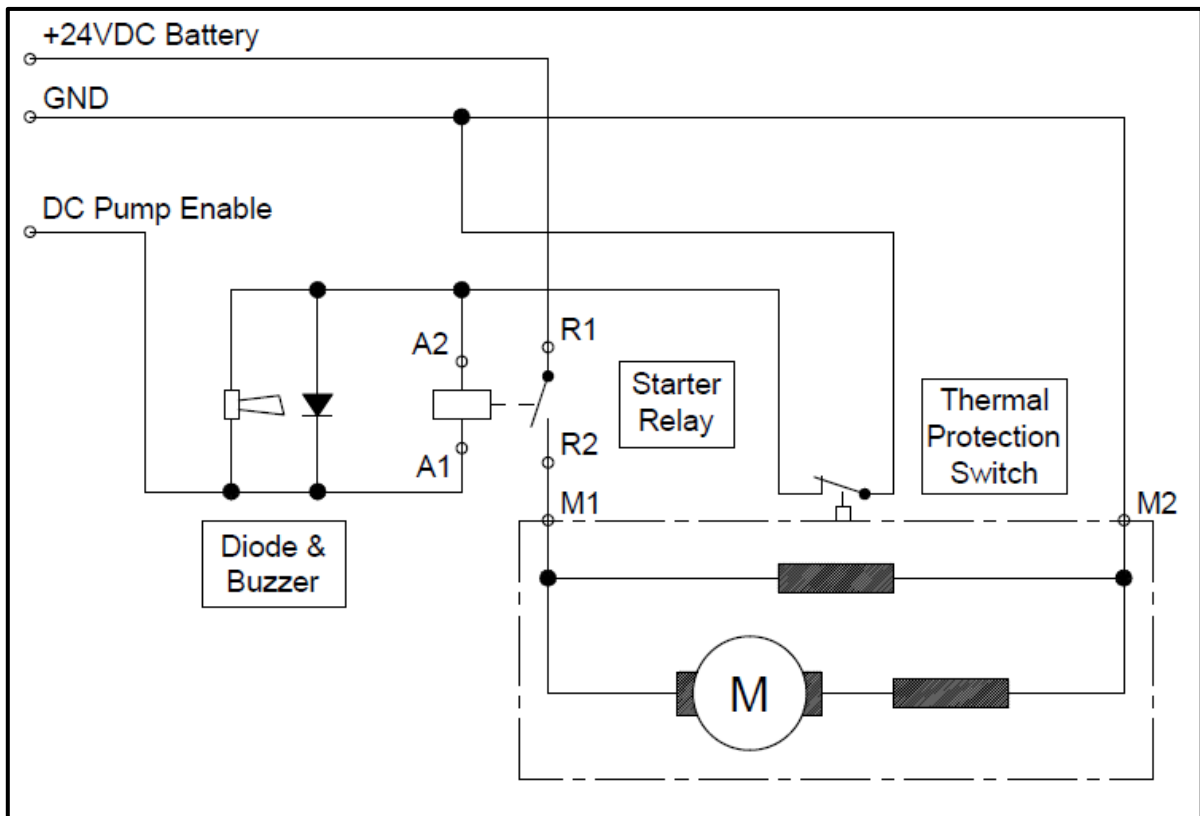

Figure 4: Circuit illustration of Alternative DC Pump wiring (TF EN280 & TL series MEWPs)
- c. Connect the diode and buzzer wiring across terminals A1 and A2. Refer to Figure 4 circuit illustration for polarity of components.